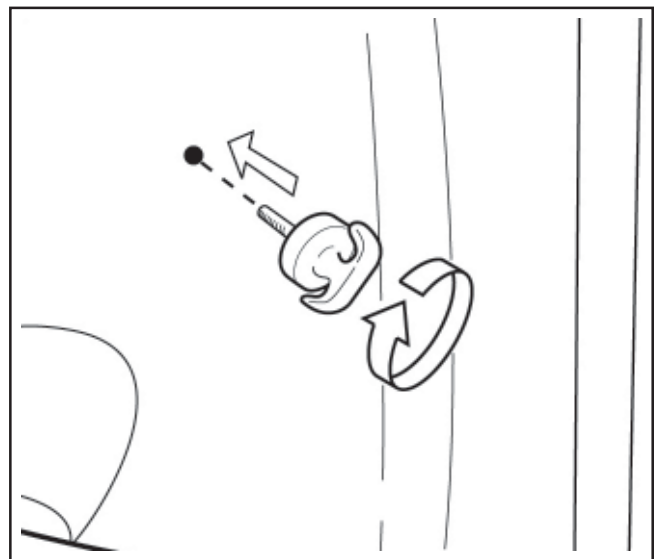

Fig. 5
7. Screw in T-anchors. Tighten snugly, but do not overtighten. (Fig. 5)